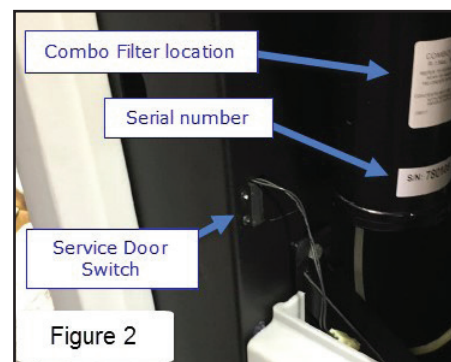

Figure 2
- The VAS581005 is locked and disabled after 150Lbs of refrigerant is processed. A new filter and 6 digit code must be installed before service can resume. See Figure 2.